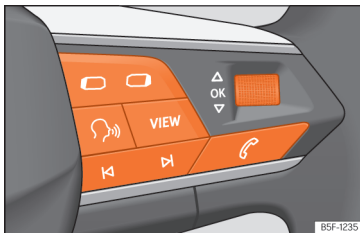

Fig. 15 Right side of multifunction steering wheel: buttons to the menus and informative indications on the instrument panel (depending on the version).
As long as a priority 1 >>> page 25 warning is active, it will not be possible to access any menu. Some warnings can be confirmed and hidden with the button **OK** of the multifunction steering wheel >>> Fig. 15.
- If a message or vehicle symbol is displayed, press the button **OK** >>> Fig. 15; several times if necessary.